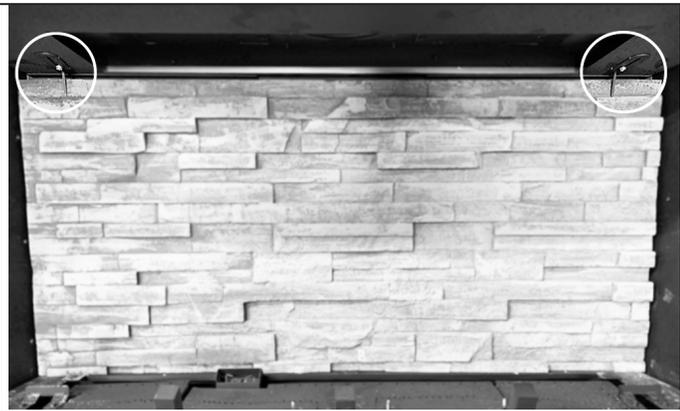

FIGURE 8.3 Back Refractory Panel Installed
1. Install back refractory panel. Secure with panel clips previously bent. See FIGURE 8.3.